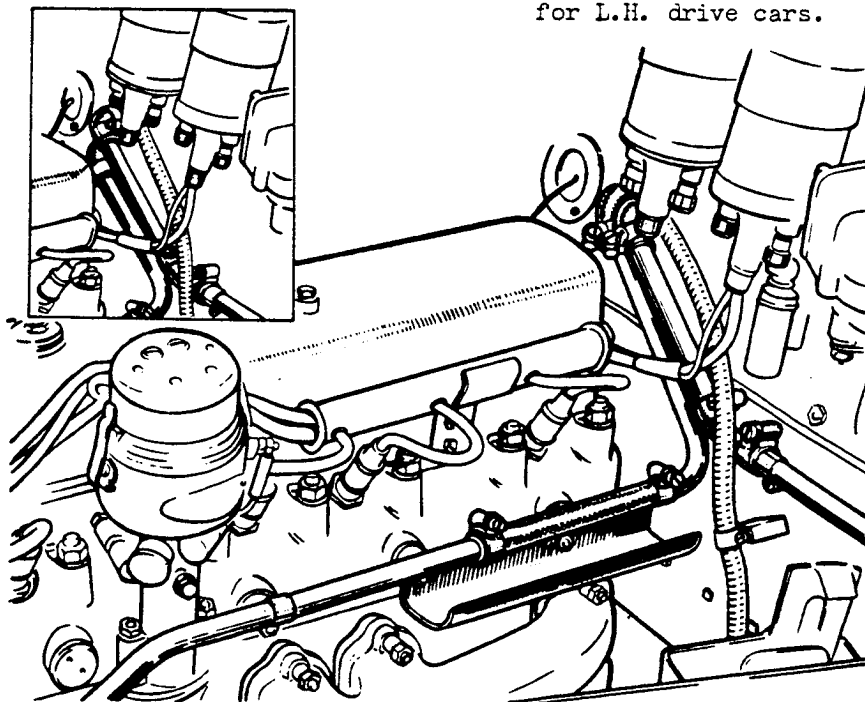

Fig. 8. CHASSIS NOS: B.273.EW AND ONWARDS.
5. Install the connections as shown in Fig. 8 for R.H. drive cars, Chassis Nos. B.273.EW and onwards; inset shows the arrangement for L.H. drive cars.